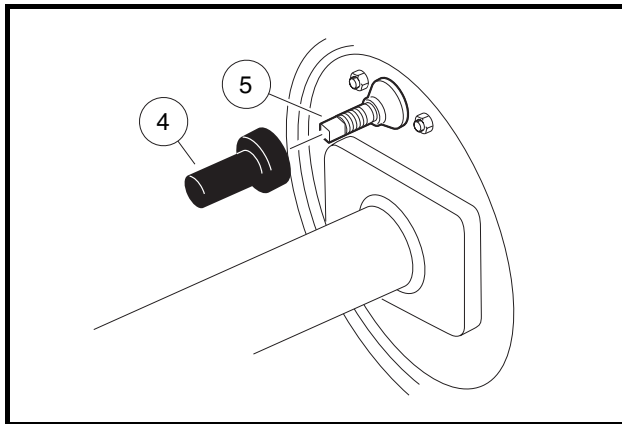
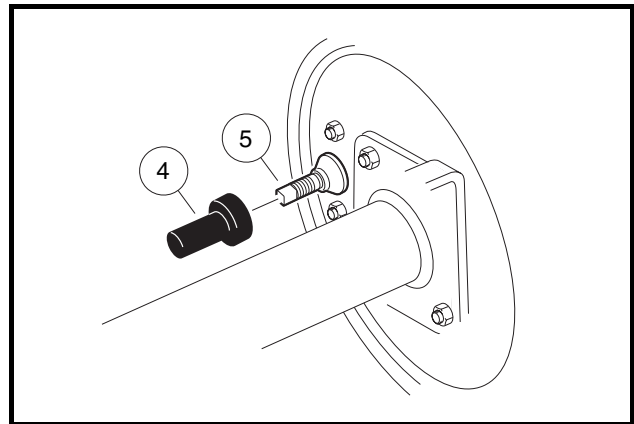

Figure 6-29 Rear Brake Adjustment Bolt
Figure 6-30 Front Brake Adjustment Bolt
3. Remove the dust cover (4) on the left and right rear brake cluster assemblies (Figure 6-29, Page 6-13).
3. Install the rubber dust covers (4) over the brake adjustment bolts (5) (**Figure 6-29, Page 6-13 and Figure 6-30, Page 6-13**).